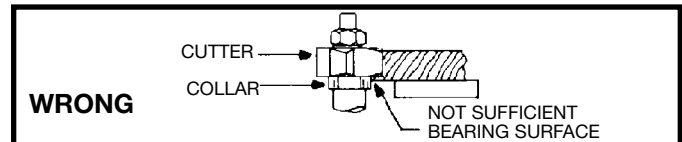
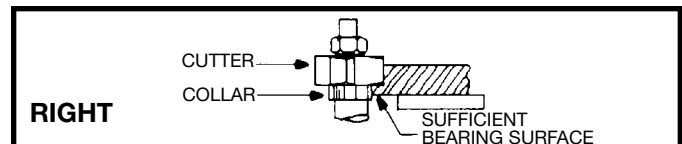

Fig. 39
Fig. 40
3. A portion of the edge of the work **MUST** remain untouched by the cutters in order that the collar will have sufficient bearing surface. Fig. 39, illustrates the **wrong way** for the operation while Fig. 40 illustrates the **right way**.